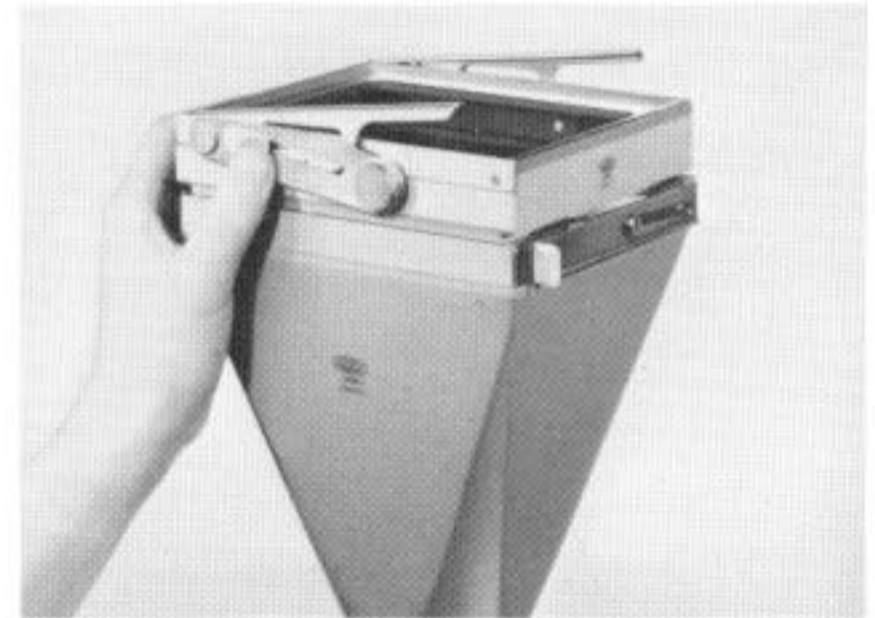

Fig. 31
- 1) Slide the lock buttons (both sides) of the intermediate adapter in the direction opposite to locking. At the end of their travel press the buttons and the clamping device will lift up. (Fig. 31)